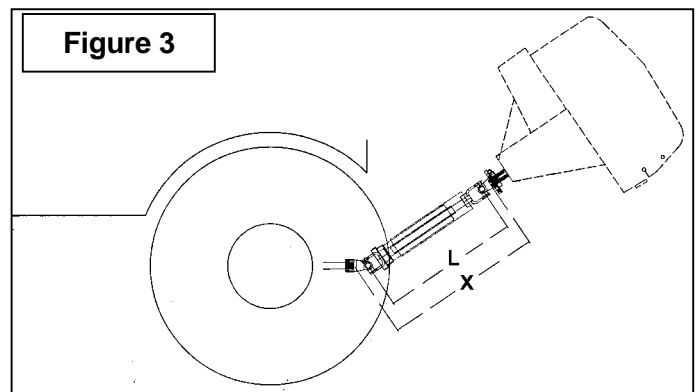

Figure 3
1. To determine the "L" length for your tractor model first find the "X" factor by measuring the horizontal distance between the end of the tractor's drive shaft and the end of the snowblower's driven shaft when the snowblower is in transport position as shown on Figure 3.